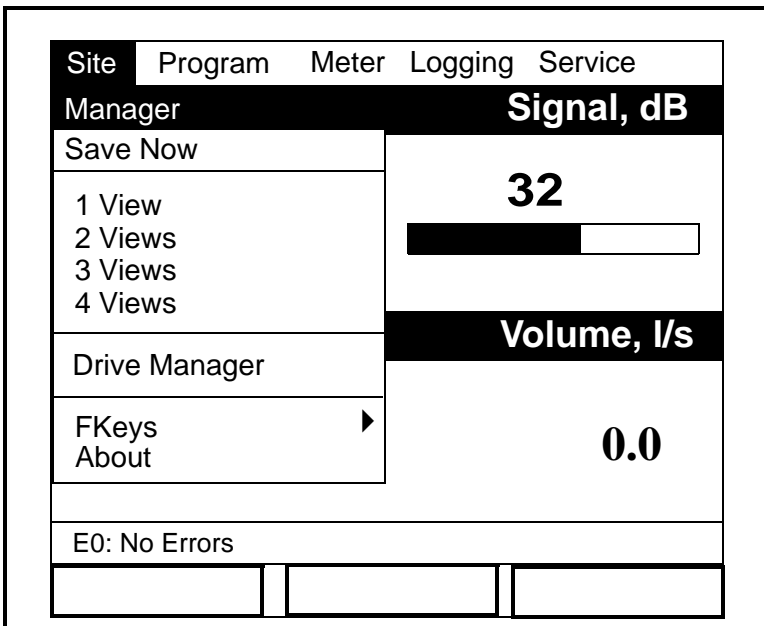
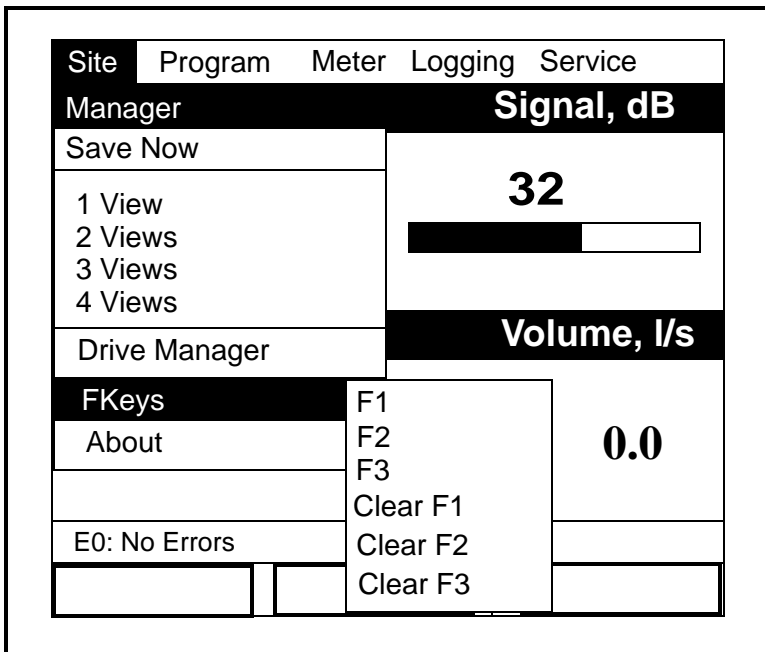
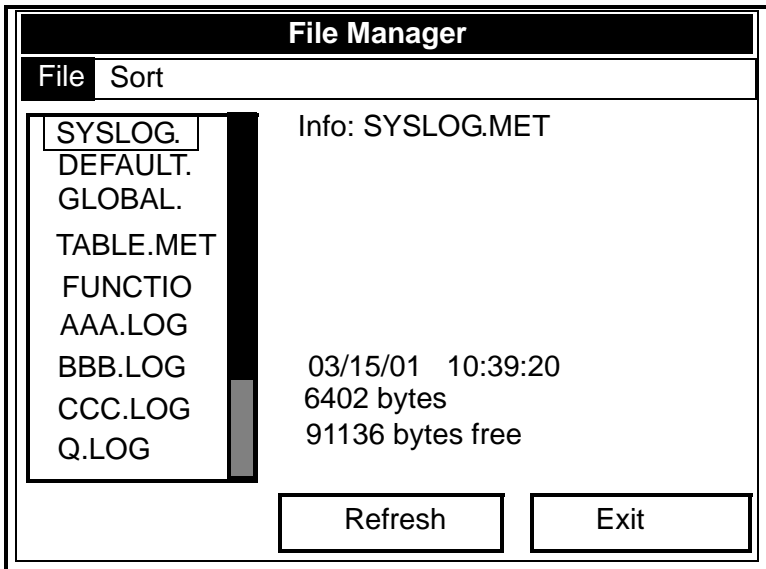

Figure 6-6: The Site Menu
Figure 6-8: The FKeys Menu
Figure 6-11: The Drive Manager Window
To enter the Site Menu, press the [MENU] key at the lower right of the PT878GC keypad. The Menu Bar replaces the Status Bar at the top of the screen. The Site Menu will be highlighted in the upper left corner. Press [ENTER] or the [▼] arrow key. The screen now appears similar to Figure 6-6 below. While following the programming instructions, refer to Figure A-2 on page A-2 of Appendix A, *Menu Maps*.
2. From the Site Menu (shown in Figure 6-6 on page 6-8), use the [▼] or [▲] arrow keys to move to the desired number of views (1 View, 2 Views, etc.) Press [ENTER].
2. From the Site Menu (shown in Figure 6-6 on page 6-9), use the [▼] or [▲] arrow keys to move to the FKeys entry on the menu. Press [ENTER]. The screen now appears similar to Figure 6-8 below.
2. From the Site Menu (shown in Figure 6-6 on page 6-8), use the [▼] or [▲] arrow keys to move to the FKeys entry on the menu. Press [ENTER]. The screen now appears similar to Figure 6-8 on page 6-11.
2. From the Site Menu (shown in Figure 6-6 on page 6-8), use the [▼] or [▲] arrow keys to move to the Drive Manager entry on the menu. Press [ENTER]. The screen now appears similar to Figure 6-11 below.